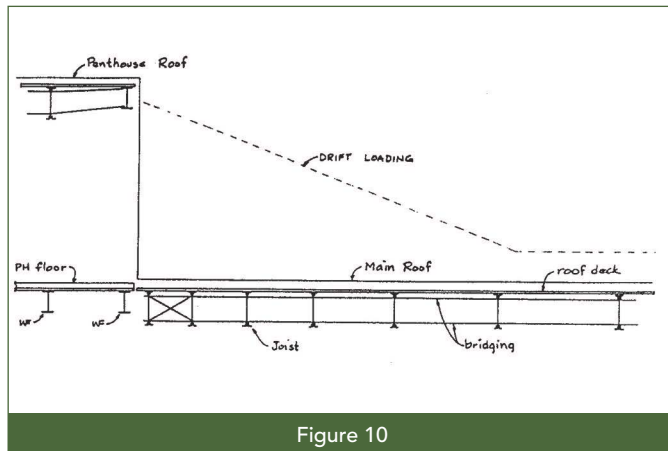

Figure 10
**In areas subject to snow drift loading, arrange the purlins parallel to the drift and space the purlins closer together as the drift load increases so the same gage roof deck can be used throughout (see Figure 10).**